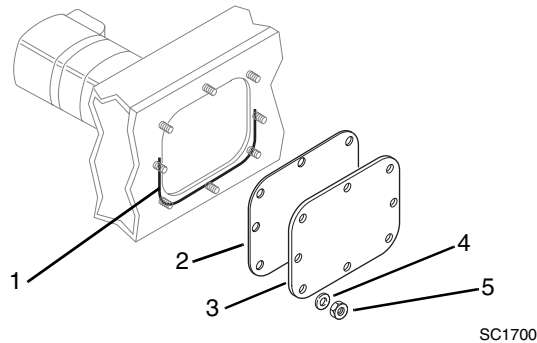

Figure 6-35 Access Cover Installation
13. Clean any sealer residue from the lower part of the access cover opening (Fig. 6-35, 1). Apply a new 1/8" bead of sealant (1) such as Permatex 2 RTV around the lower half of the opening.
14. Reassemble the cover gasket (Fig. 6-35, 2) and cover (3) to the side of the chain case using the original washers (4) and new hex locknuts (5). Torque the eight locknuts to 14 lb/ft (19 Nm).